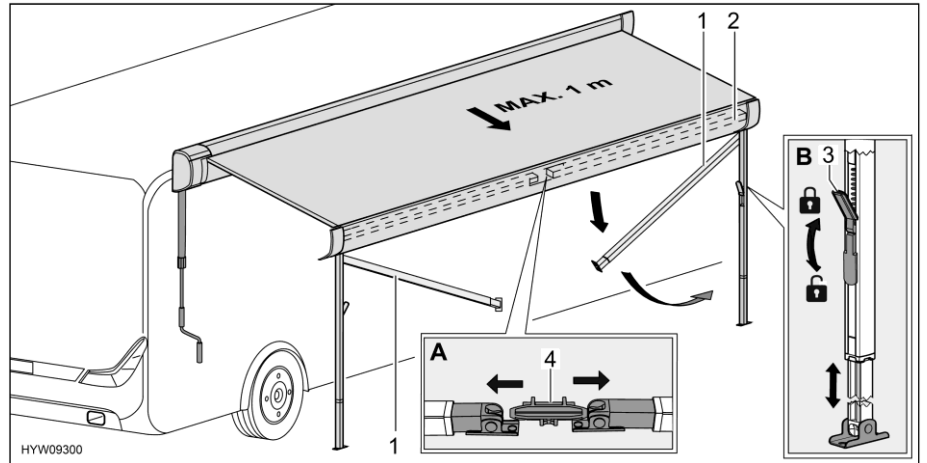

Fig. 50 Preparing support legs
- Release support legs (Fig. 50,1) from holder (Fig. 50,4) in the front bar (Fig. 50,2). In order to do this, apply slight outward pressure on the support legs (Fig. 50,A).
- Release the locks (Fig. 50,3) of the support legs. In order to do this, fold the catch lever downwards.
- Pull lower part of the support legs out to the desired length (Fig. 50,B).
- Close the locks (Fig. 50,3) of the support legs. In order to do this, fold the catch lever upwards.